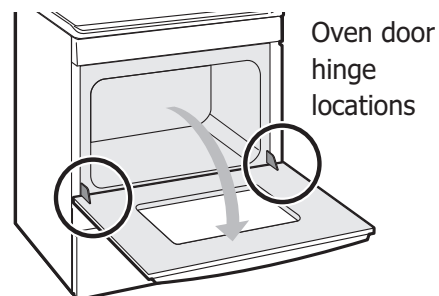

Figure 13: Door hinge location
1. Open oven door completely, horizontal with floor (See Figure 13).
3. Fully open the oven door, horizontal with floor (See Figure 13).